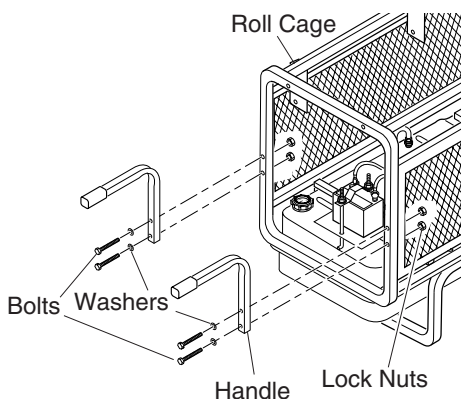

Figure 8 – Attaching Handles to Roll Cage
1. Remove the two bolts, lock nuts, and washers holding side panels to control panel end of roll cage. Insert bolts with washers through two holes in the handle and then back through roll cage and side screen panels (See Figure 8). Tighten the lock nuts against the side screen panels.